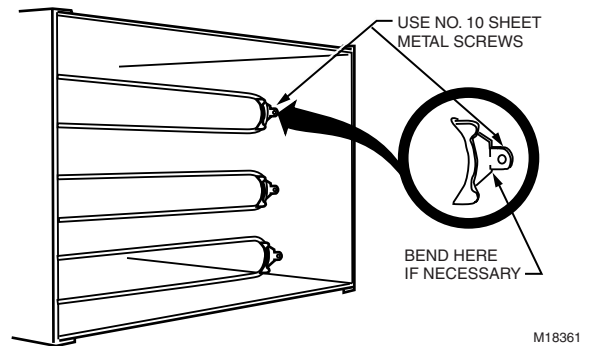

Fig. 11. Alternate mounting using 314439 capillary clip.
1. Locate positions for capillary clips on sides of duct and mark for drilling. See Fig. 11.